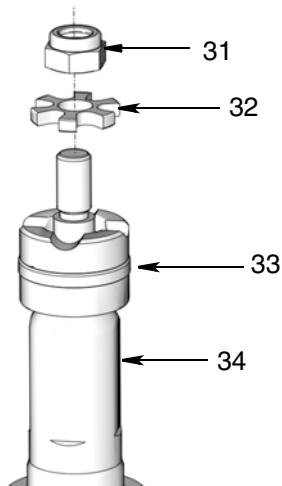

FIG. 36
14. Install star washer (32) and lock nut (31) on piston rod (34) as shown in FIG. 36.
15. Use a wrench to tighten lock nut (31).
**16. Outlet Tube O-ring (13) and Pump Cylinder O-ring (9)**